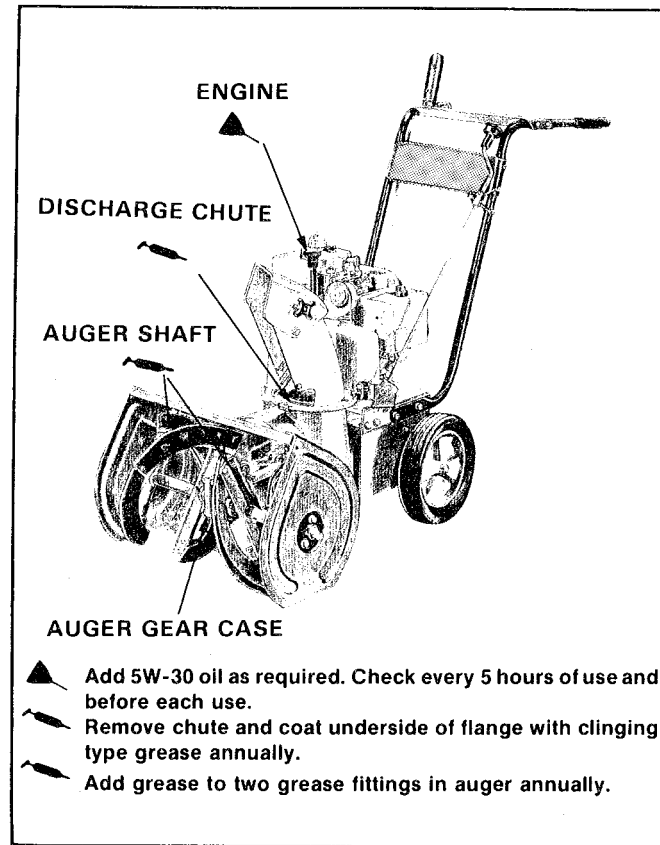

Figure 2. Lubrication Chart
5. Check operation of controls. Lubricate as instructed in Lubrication Chart (figure 2).
For lubrication points, frequency of lubrication and type of lubricant, see Lubricant Chart (figure 2).